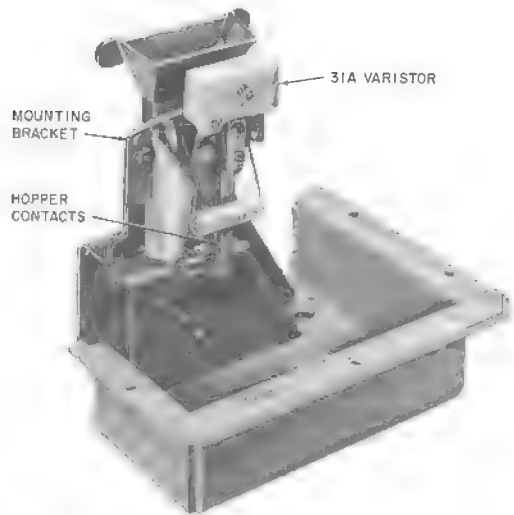

Fig. 13—212G Dial Postpay (CDO) Mechanism Unit
- Dial postpay, no coin relay (Fig. 13)